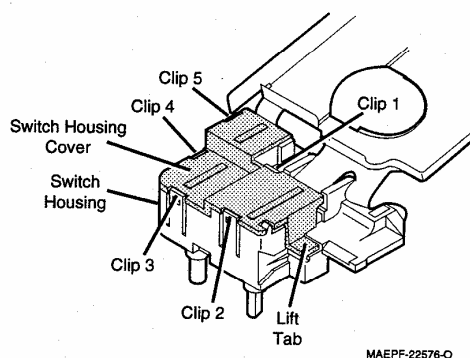

Figure 7
- a. Five retaining clips hold the switch housing cover to the switch housing. Clips 1, 2, and 3 are important during disassembly (see figure 7).